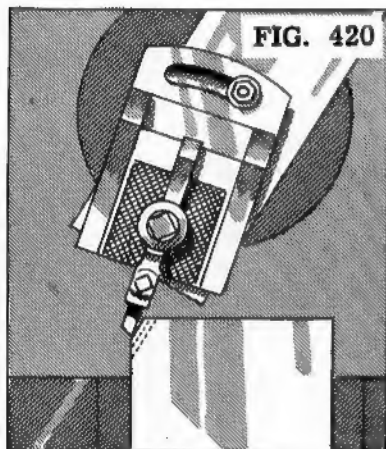

FIG. 420
7. Feed the tool down a few thousandths at a time for each cut until the tool stops cutting (Fig. 420).
4. Adjust the tool and the tool holder so that the tool makes an angle of 5° or less with the angular surface. The practice will provide clearance for the tool holder and tool slide when the tool is at the lower edge of the cut (Fig. 420).